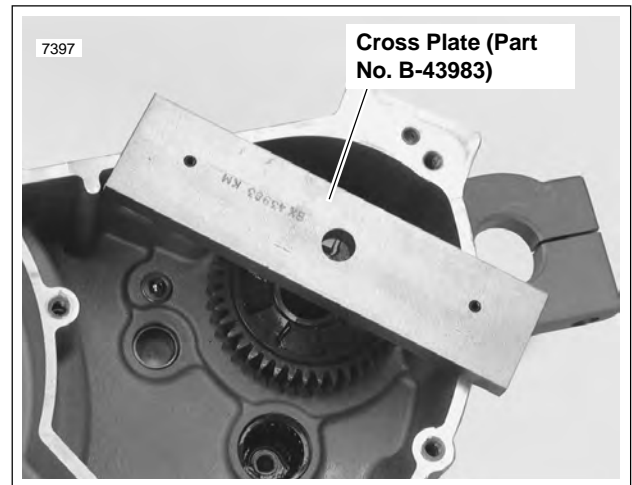

Figure 6-50. Cross Plate Mounting
2. See *Figure 6-50*. Remove main drive 5th gear. Use MAIN DRIVE GEAR REMOVER AND INSTALLER (Part No. HD-35316A). See **6.11 MAIN DRIVE GEAR**.
1. Locate MAIN DRIVE GEAR REMOVER AND INSTALLER (Part No. HD-35316-A). See *Figure 6-50*. Place crossplate pins in appropriate holes in transmission case.